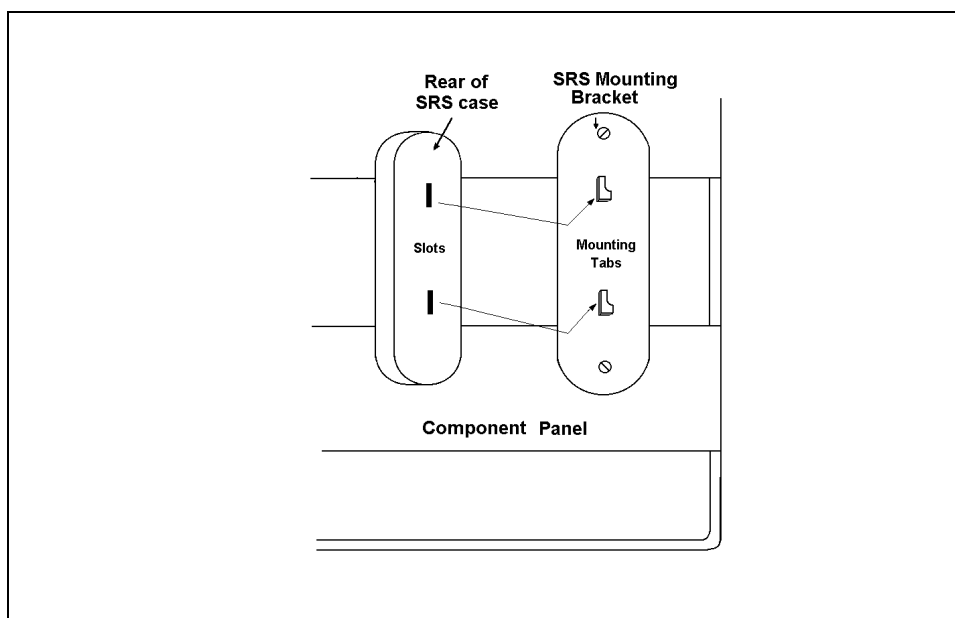

Figure B-8. SRS Installation
4. Mount the SRS on the component panel (see Figure B-8). The SRS has a special mounting bracket that can be installed in several positions on the component panel, depending on your application. After mounting the bracket, align the slots on the back of the SRS with the tabs on the mounting bracket. Press *in* and then *down* to lock the SRS in place. Lift *up* and pull *out* to remove the SRS, if necessary.